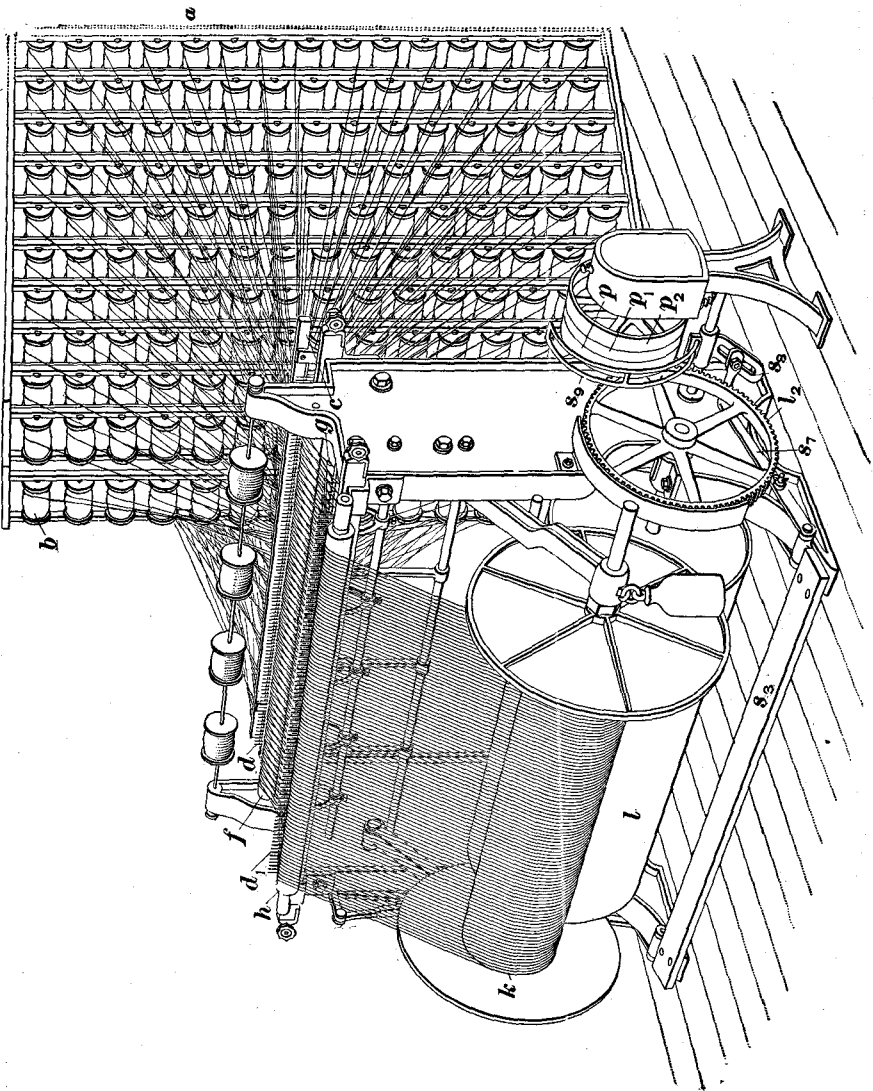
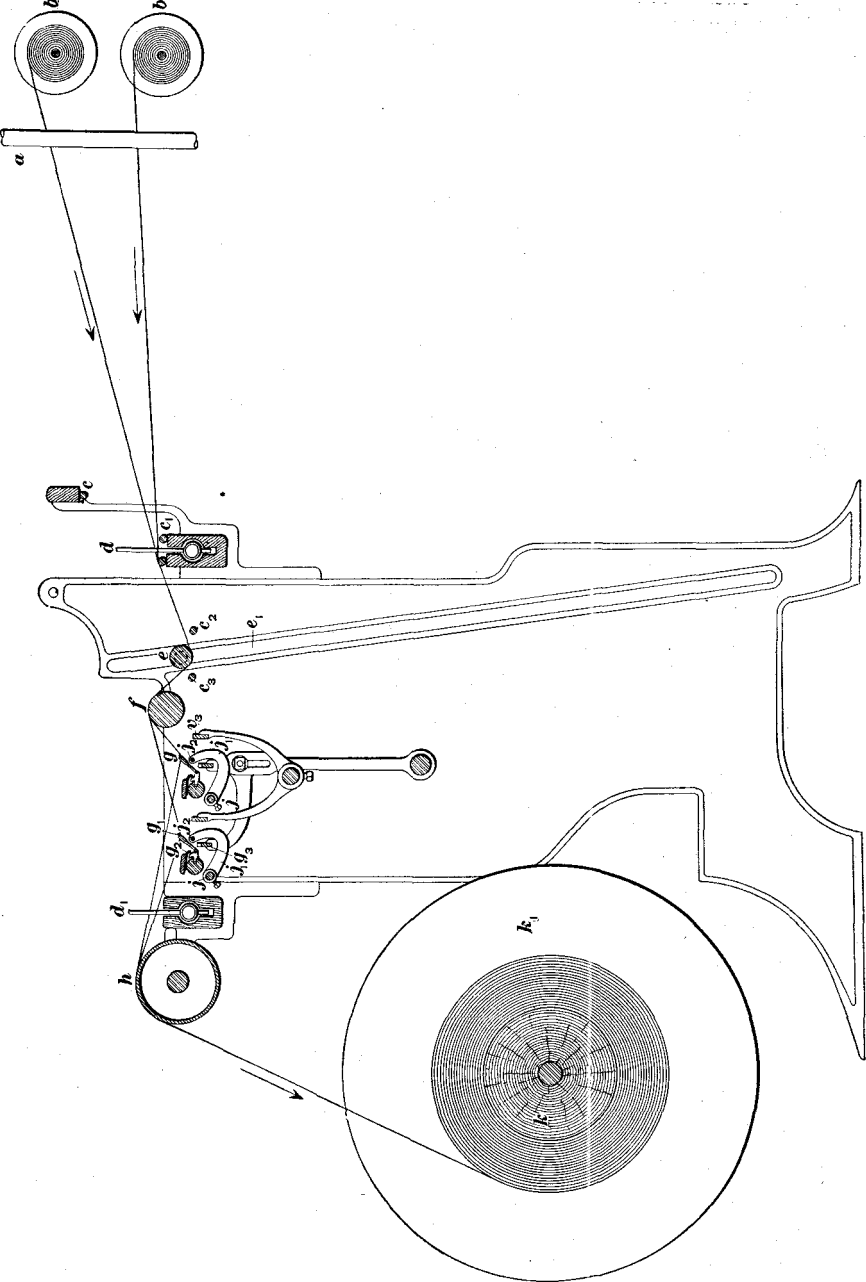
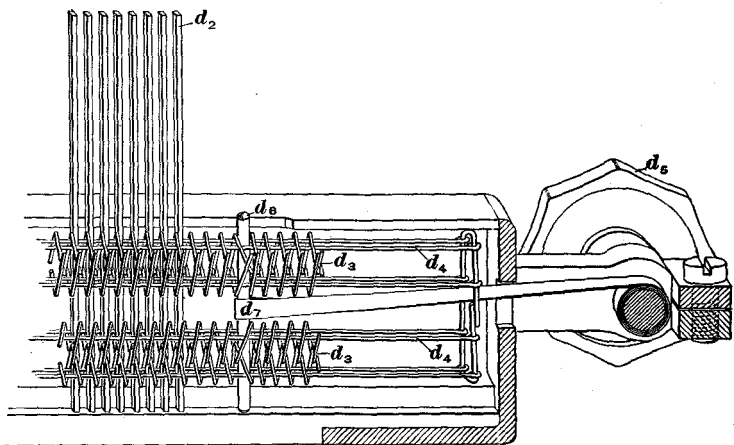

FIG. 1
FIG. 2
FIG. 5
2. The plan on which the warper for beam warping is constructed and operated is simple, as it consists of arranging spools of yarn in a creel so that they revolve with the least possible resistance, while the yarn that they contain is wound on a roll, or beam, rotated by contact with a revolving cylinder. As warpers do not vary much in their general construction, a description of the **Entwistle** will serve as an explanation of all. The special devices will be described later. Fig. 1 shows the creel and warper as they appear when in operation, while Fig. 2 shows a section of the parts
In passing the ends from the creel to the warper, those from the front of the creel come to the center of the comb *d*, Fig. 2, while those at the right hand of the creel at the back come to the right-hand side of the comb and those from the left of the creel at the back come to the left-hand side of the comb. The first end taken from either side of the creel should be the one from the top spool in the front row on that side, and the ends should then be taken in regular order downwards. When the ends have been taken from the front row of spools in this manner, the second row should be treated in the same way, and so on until the ends from all the spools in the creel have been taken to the warper.
4. Expansion Combs.—The first important part of the warper with which the yarn comes into contact as it passes from the creel is the **expansion comb** *d*, Fig. 2, shown alone in Fig. 5. It is constructed by inserting wire teeth *d*₂ through spiral springs *d*₃, which are held by the rods *d*₄. A
Fig. 2 shows two expansion combs d , d_1 on one warper. In some cases the teeth in the comb at the front of the machine are made of round wire.
5. Drop Roll.—Passing from the expansion comb, the yarn comes into contact with the **drop roll** e , Fig. 2, which takes up any slack yarn that may be let off by the spools and not taken up by the beam. When the warper is stopped for any cause, the momentum of the spools causes considerable yarn to be unwound, which, if not taken care of in some
manner, may become snarled and break when the warper is again started. The roll e is a brass roll having bearings that slide in almost vertical slots e_1 constructed in the inside of the frame. It is supported by the yarn alone, the tension of which is sufficient for this purpose except when the ends become slack owing to the warper being stopped; in such cases the roll drops in its guide slots, taking down the slack yarn and, as the yarn is supported on each side of the drop roll by the rods c_2, c_3 , Fig. 2, 6 feet of slack yarn can be taken care of, although the roll drops only about 3 feet. It should be understood that, if a smaller amount of yarn is let off, the roll drops only far enough to take up the slack, when it is again supported by the tension of the yarn.
The principle on which the stop-motion is constructed is that of having each end that passes from a spool to the beam threaded through a drop wire, which is either held upright or in some cases entirely suspended by the thread. In case any end breaks, the drop wire that it supports falls and, by suitable mechanism, shifts the belt to the loose pulley and stops the machine. The relative position that these drop wires g, g_1 occupy in the warper is shown in Fig. 2, while the mechanism of the stop-motion itself is shown in Fig. 6. The foot-board s_3 , Fig. 6, is pressed by the operator when starting the machine; this turns the shaft s , to which is fastened the lever s_2 carrying the weight s_1 ; at the same time the rod s_4 is lowered until the notch s_6 drops below a hole in the casting s_5 , when s_4 falls to the right and is held in this position, although the weight s_1 is constantly tending to raise the foot-board s_3 .